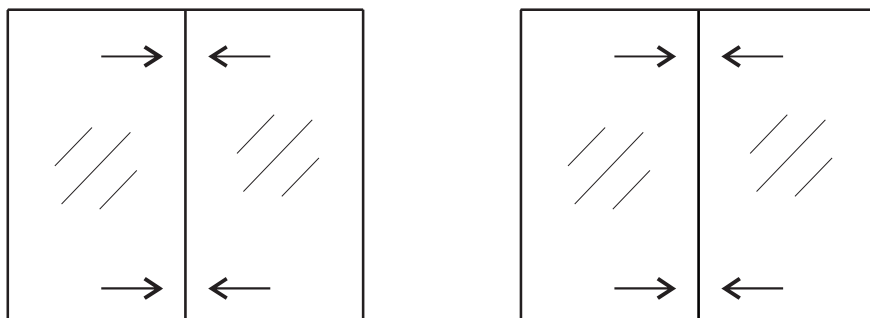
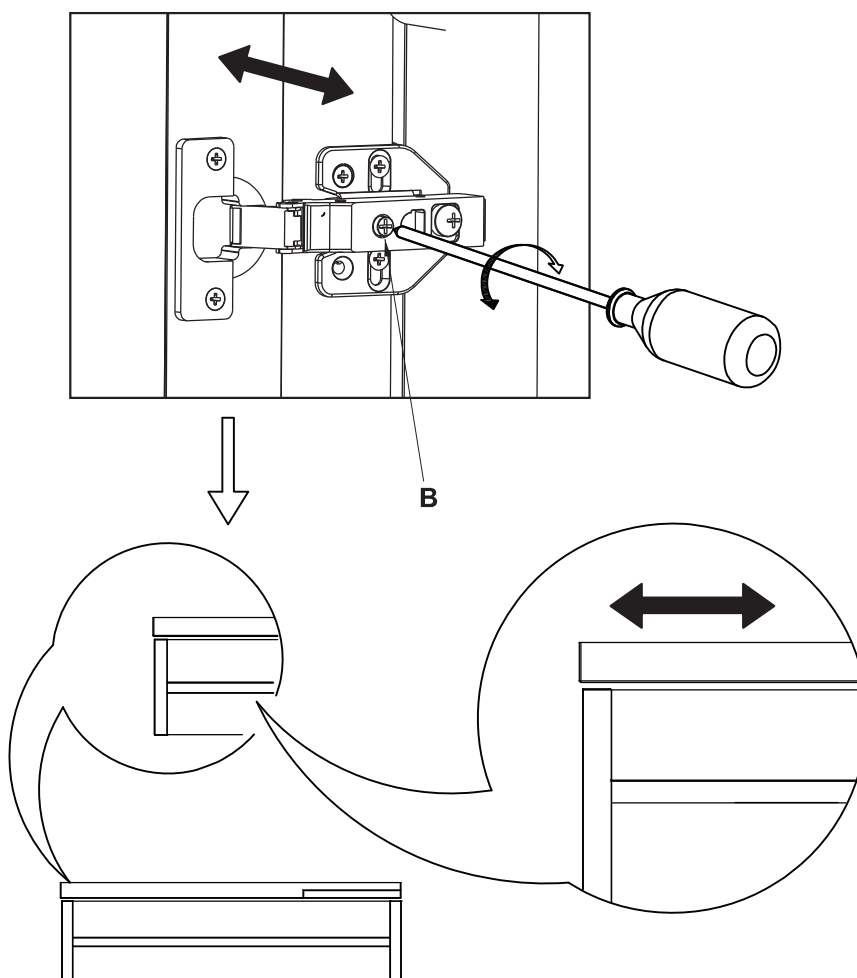

Fig. 6
Fig. 7
3.1 Fix the mirror cabinet, and check if the mirror door is flat; if not (as shown in Fig. 6), adjust the distance of the door opening by adjusting the hinge screw (B) and keep both doors level (Fig. 7).